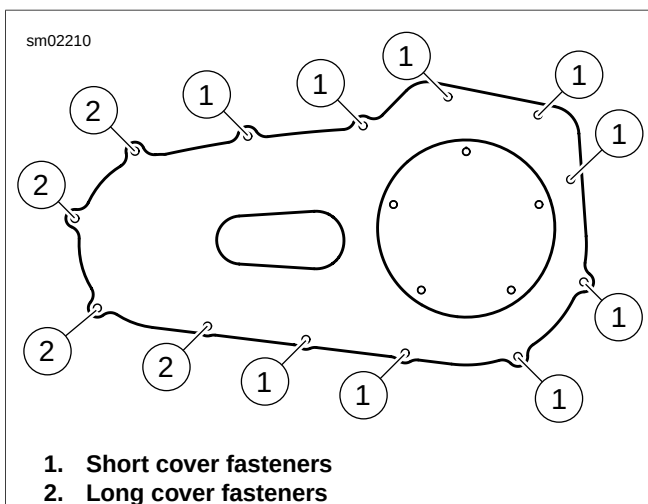

Figure 5-1. Primary Chaincase Cover
3. See Figure 5-1. When lubricant has drained, remove short (1) and long (2) cover fasteners and cover.
4. See Figure 5-1. Install short (1) and long (2) primary cover fasteners in positions shown. Snug fasteners.